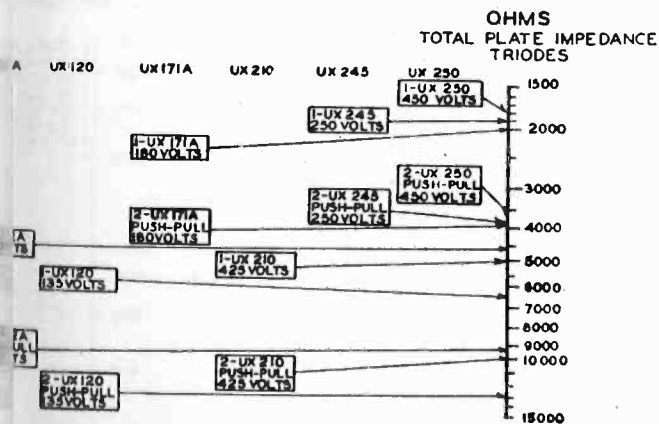
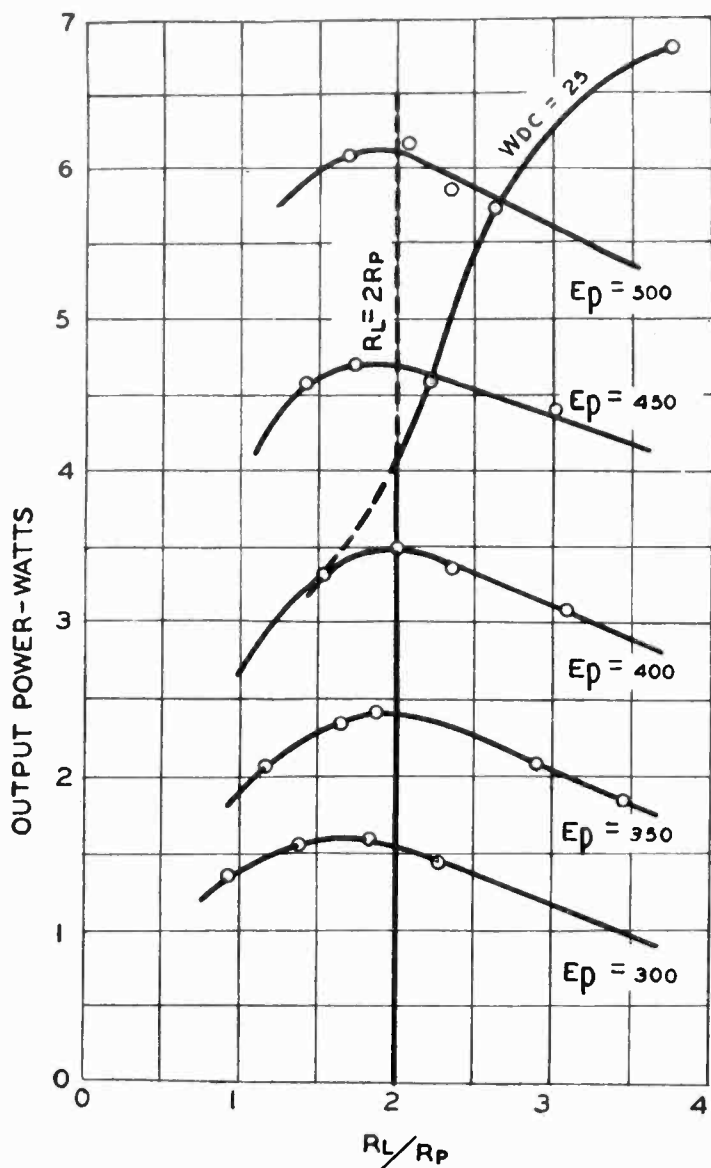
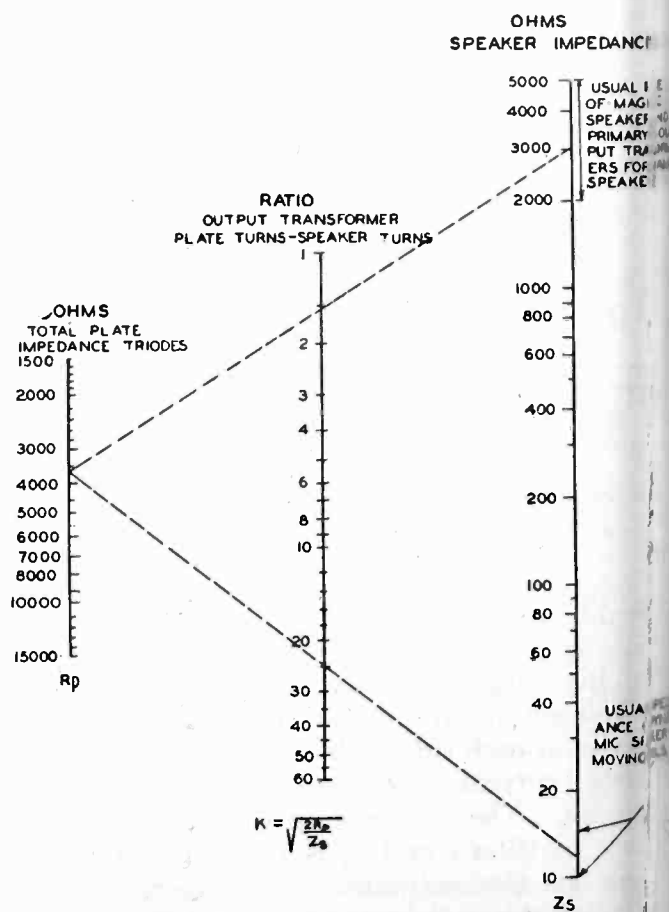

Fig. 2—Output impedance of commonly used tubes at maximum rated plate voltages
Fig. 3—Effect of load impedance on output power of UX-250
Fig. 4—Alignment chart correlating turns ratio transformer with resistance of tube and loudspeaker
by the use of Fig. 4, as will be explained on another page.
Several writers1,2 have found that the maximum undistorted power output of a tube will be obtained when the load impedance into which the tube works is twice the impedance of the tube. This condition is not very critical, however, as is indicated by Fig. 3 which shows the effect of load impedance on the output of UX-250 for various values of plate potential. This figure is taken from the paper by Messrs. Hanna, Sutherlin, and Upp.2 At a plate voltage of 450 it is seen that for values of  $R_L/R_p$  between  $1\frac{1}{2}$  and 3 the greatest loss in power is only 7 per cent. Although the curves of Fig. 3 apply directly to the UX-250, the general conclusions drawn from them apply to all tubes. It should be noted in the case of the UX-250 that the ratio of load to plate impedance should be greater than 2 for high values of plate voltage in order not to exceed the maximum safe plate dissipation of 25 watts. Fig. 2 gives the plate impedances for output tubes now on the market.
Fig. 4 is an alignment chart for equation (1) ba the condition that  $R_L = 2R_p$ .
As an example, suppose two UX-250 tubes ar connected in push pull with a plate potentia volts. In Fig. 2 the impedance is found to b ohms. Using the nominal value of 3,000 ohms r representing the impedance of the usual magneti speaker, or the primary of the output transfor an electrodynamic loudspeaker, the turns ratio i is found to be 1.5 : 1. Similarly, using 12 ohms usual impedance of the moving coil of the louds the turns ratio is 25 : 1. These values are in by the dotted lines of Fig. 4.